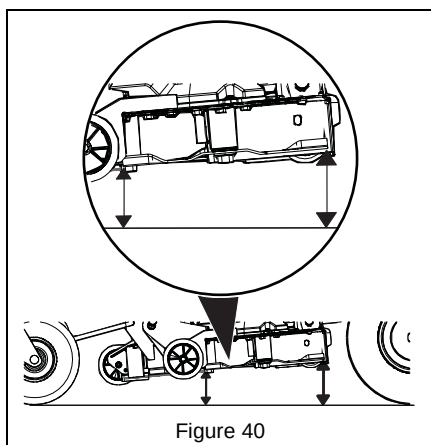

Figure 40
3. On both sides of the unit, measure the distance to the ground at the front and rear tip of the blade. See Figure 40.